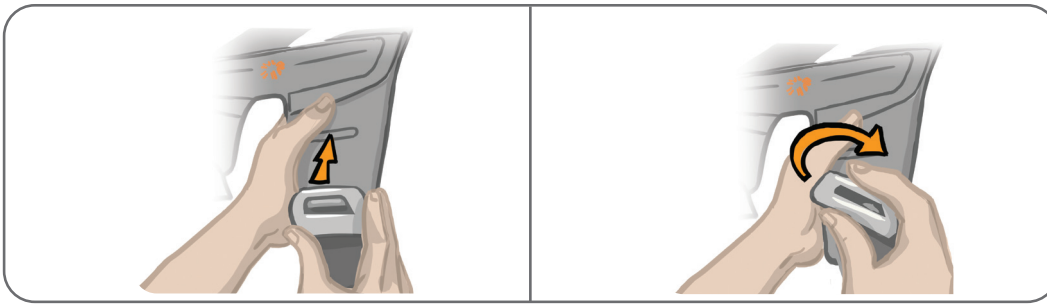

Figure 11-13: Reattaching the Thigh Straps
2. Push the strap buckle with your thumbs toward the strap (direction away from the Thigh Cuff). See Figure 11-13. The strap buckle will snap into the Thigh Cuff panel hook.